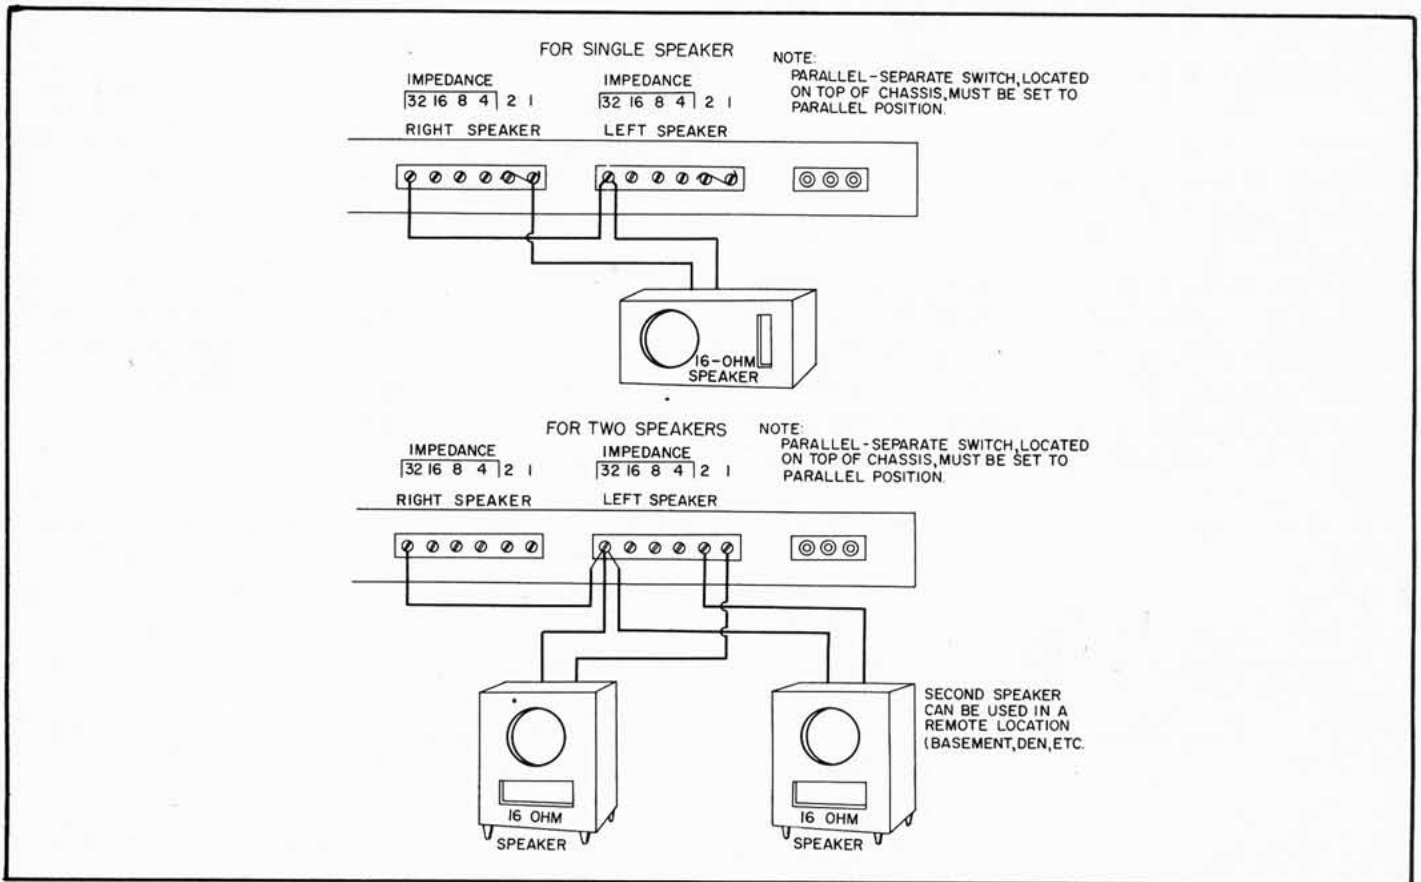

Fig. 4. Setup for Monophonic Operation.
1. The Model SA-40 may be used as a high-power monophonic amplifier by merely setting the Parallel-Separate switch to the Parallel position and connecting the speaker or speakers as shown in Fig. 4. The phono, tuner, tape, etc., can be connected to the appropriate input jacks of the right channel only.